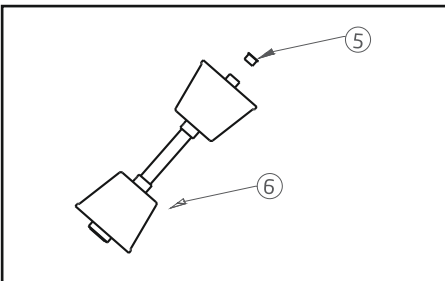
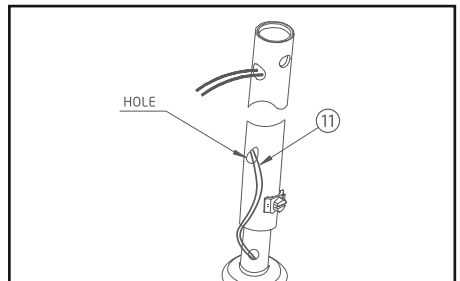

Figure 6
Figure 7
Remove the down rod cap ⑤ and insert the canopies ⑥ and put the down rod cap ⑤ into the down rod. See Figure 6. Press supply wires ⑪ coming from motor through the down rod, pull out from hole and connect with main supply.. See Figure 7.